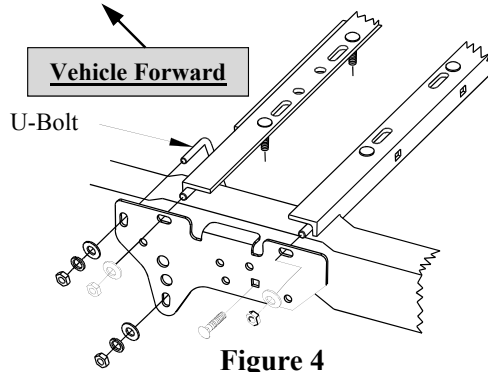

Figure 4
6. Use the supplied U-Bolt for the forward attachment of the bracket to the frame (see Figure 4). Position U-Bolt from the inside of the vehicle frame pointing towards the hitch side bracket. On the passenger's side of the vehicle, the U-Bolt must be positioned to the vehicle forward side of the shock mount and installed on an angle through the mounting slots on the hitch side bracket.